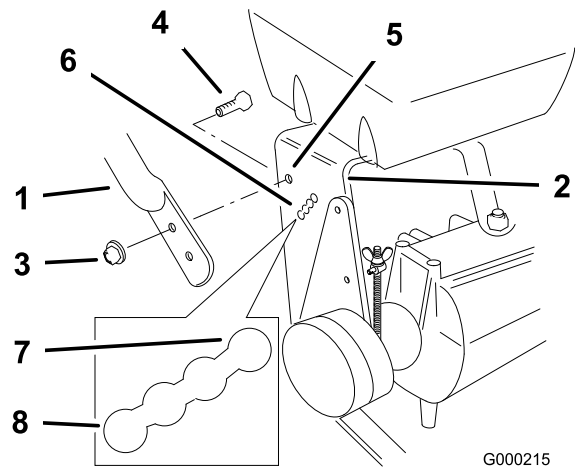

Figure 21
2. Loosen the upper flange bolts (3/8 x 1 inch) and flange nut securing handle to rear frame (Figure 21).
3. Remove the lower flange bolts (3/8 x 1 inch) and flange nuts securing handle to rear frame (Figure 21).